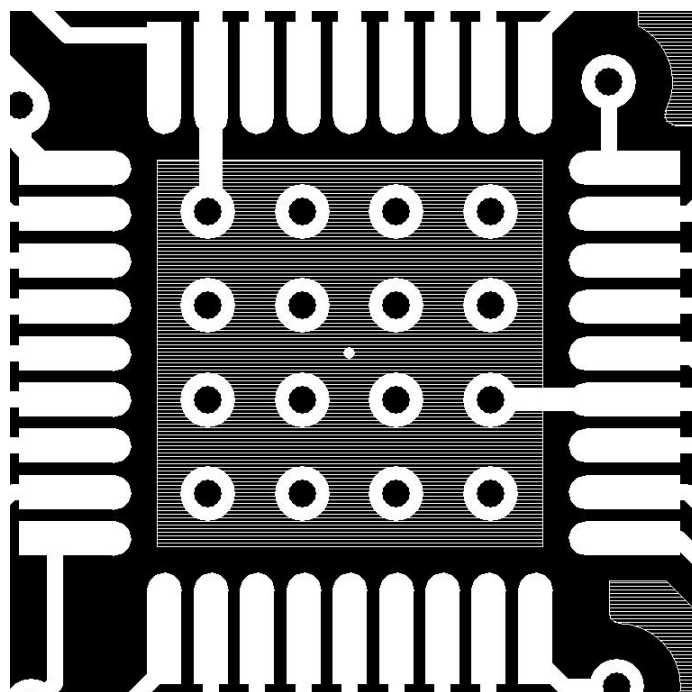

Figure 9. Ground Pad Recommended Layout
- Added Figure 9, “Ground Pad Recommended Layout,” on page 67
- Replaced Figure 9.